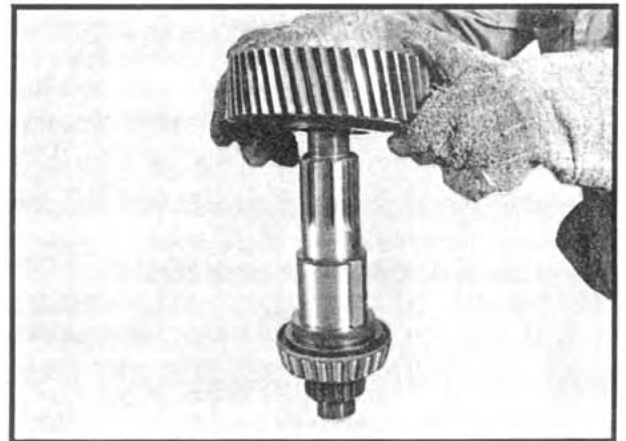

Fig 43
- Heat and install the gear on the other end of the shaft. See Figure 43. Slip the spacer washer against the gear. Heat and install the remaining bearing cone assembly on the shaft against the washer. Slide the clutch gear into place against the other cone and install the clutch gear retaining locknut. For convenience, the nut may be torqued after the shaft assembly has been installed in the transfer case housing.